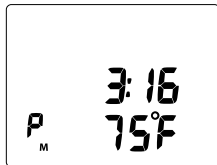

Fig. 75 - NO DECO SAFETY
**NO D SAFETY STOP ALT 3**, information includes (Fig. 75) -